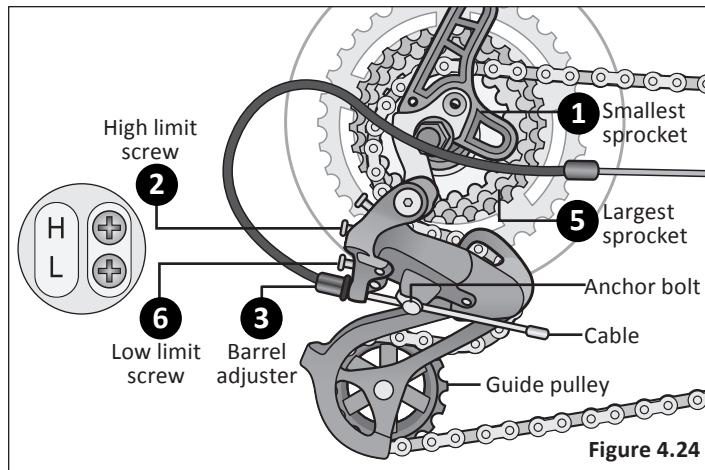

Figure 4.24
- 2 Adjust the high limit screw so the guide pulley and the smallest sprocket are lined up vertically. **Figure 4.24**